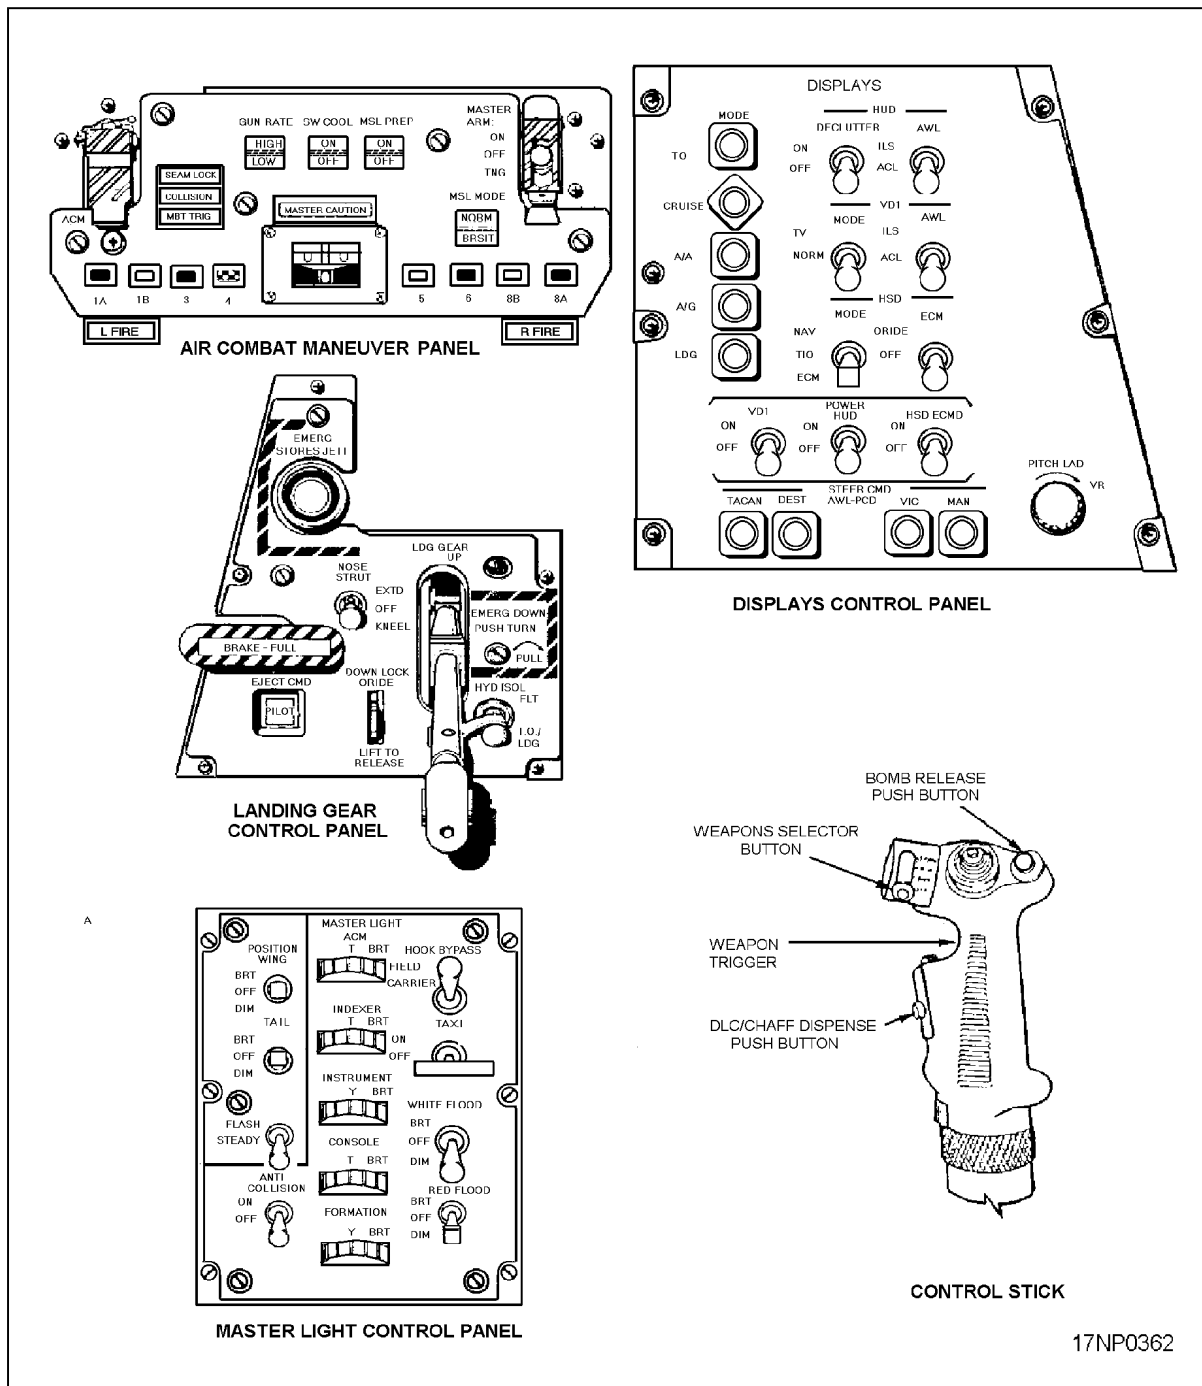

Figure 15-1.—F-14 control panels.
The ACM panel (fig. 15-1) is located on the forward cockpit center console. It contains switches for missile preparation, missile operating mode selection, and for arming the system. Indicators inform the pilot of weapon status, when the missile is locked on the target, and when the missile is ready to be launched. When the ACM encounter mode is selected, gun high-firing rate and the AIM-9 missile cooling are automatically selected. The ACM panel switches are discussed in the following paragraphs.
The displays control panel (fig. 15-1) is located on the forward cockpit's right vertical console. It contains the air/ground mode (A/G MODE) push-button switch
The control stick (fig. 15-1), located in the forward cockpit, contains the weapons selector button, weapon trigger, bomb-release push button, and the DLC/CHAFF DISPENSE push button.
The master light control panel (fig. 15-1) is located on the right side console of the forward cockpit. It contains the ACM thumb-wheel control, which controls the 26 volts of ac to the ACM panel indicator lights.
The landing gear handle (LDG GEAR) handle (fig. 15-1) is located on the left vertical console of the forward cockpit. It operates a switch assembly that functions as an armament safety device. As such, it prevents accidental missile launching, bomb release, rocket firing, and ACM encounter jettison of external weapons/stores when the aircraft is on the ground. Master arm power is prevented when the LDG GEAR handle is in the down (DN) position. When the LDG GEAR handle is in the UP position, the fire control system master arm power is available.
The Sidewinder cool (SW COOL) switch (fig. 15-1) is a two-position, push-button switch on the ACM panel. This switch is used to generate the AIM-9 missile cool signal to cool the missiles. When in the ACM encounter mode, AIM-9 missile cooling is automatically selected, regardless of the SW COOL switch position.
**GUN RATE SWITCH.** The GUN RATE switch (fig. 15-1) is located on the ACM panel. It is a two-position, push-button, indicator switch that selects HIGH (6,000 rounds per minute) or LOW (4,000 rounds per minute) rate of fire. This switch is only active in the A/G and A/A modes.